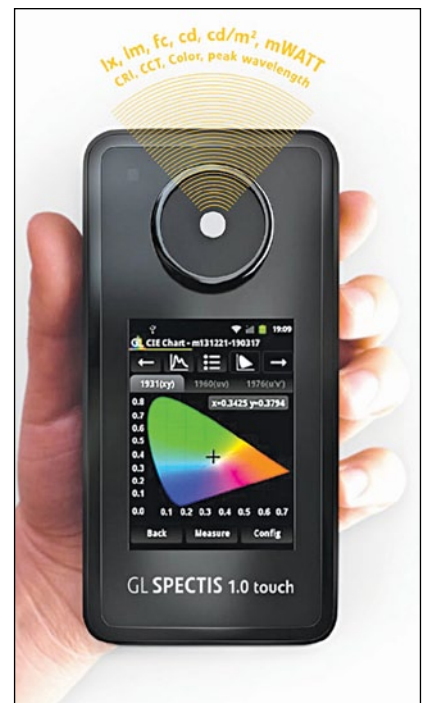

Fig. 3: GL Optic's GL SPECTIS 1.0, a handheld, Android based, smart spectrometer
index, to name a few. Unlike Lighting Passport that needs to be connected to a smartphone, the new GL SPECTIS 1.0 (Fig. 3) is a smart spectrometer that requires no connection to a computer or smartphone to take and show measurements. It uses Android operating system (OS) to show critical data such as chromaticity charts and full spectral profile on its touchscreen interface. Boasting of a six-hour battery life, microSD card slot and storage of up to 1000 measurements, this device also looks to tackle fluctuations in temperature with a temperature sensor installed on the its printed circuit board (PCB), providing measurement stability. It is Wi-Fi- and USB-2.0-enabled.